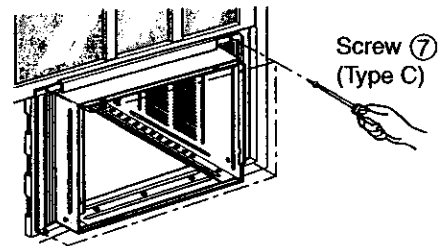

Figure 108
9. Expand side curtains to fill opening. Attach each side curtain to the window sash using (4) TYPE C screws ⑦ (See Figure 108)